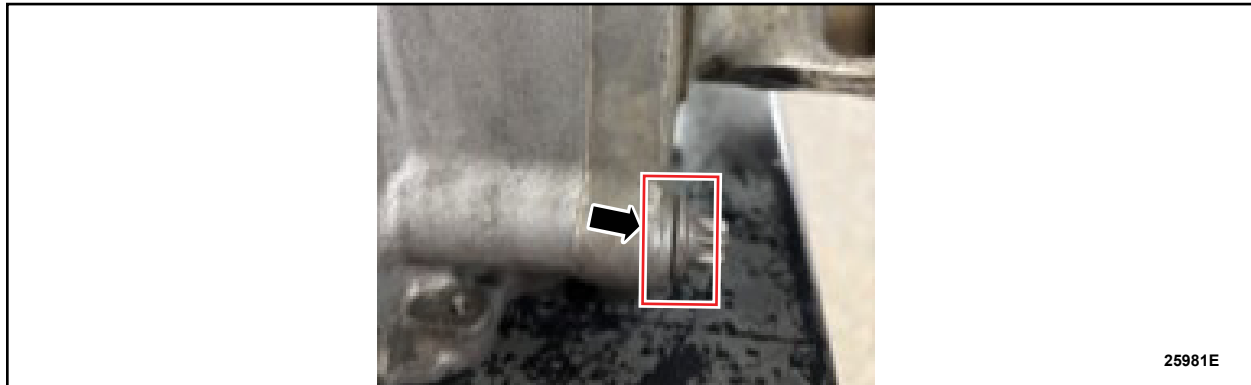

FIGURE 5
- Are all of the bolts that secure the transfer case to the transmission present and fully seated to the transfer case? See Figure 5.